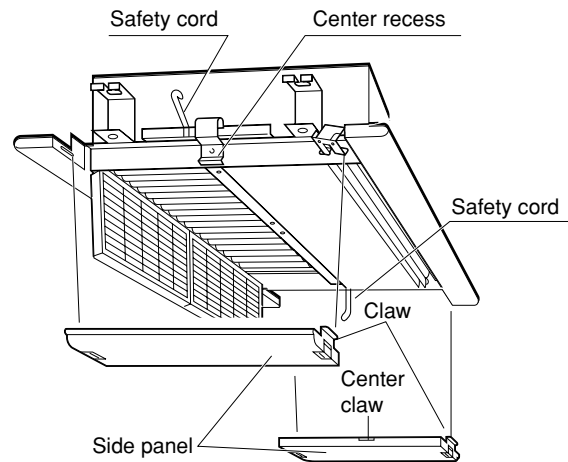

Fig. 9-5
- (5) For attaching and removing the side panels, see Fig. 9-5.